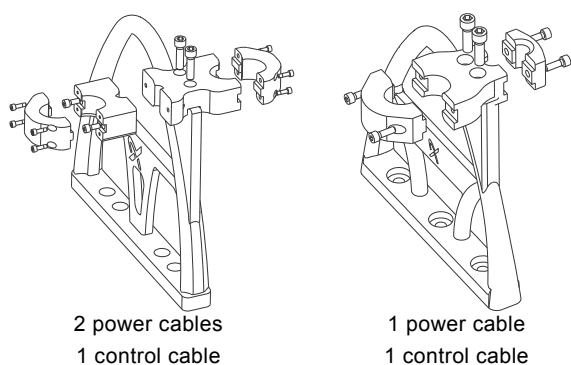

Fig. 79 Cable clamps.
1. Loosen and remove the screws (pos.180a). See fig. 79.